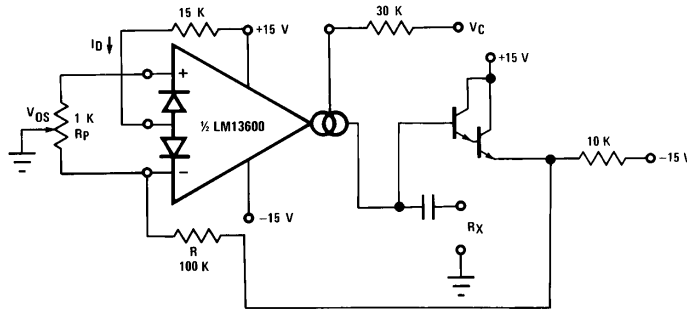
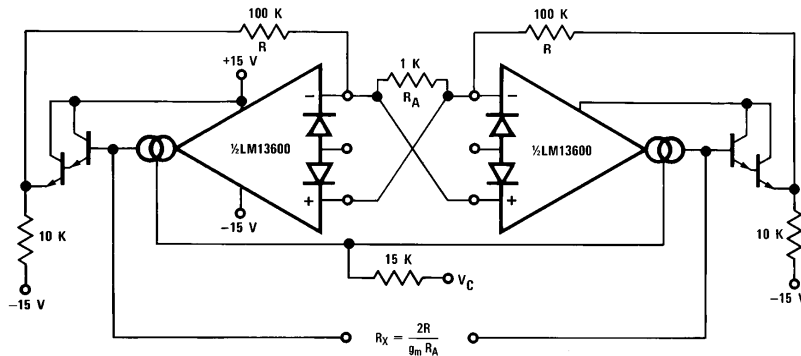

FIGURE 9. Voltage Controlled Resistor with Linearizing Diodes
FIGURE 10. Floating Voltage Controlled Resistor
*Figure 9* shows a similar VCR where the linearizing diodes are added, essentially improving the noise performance of the resistor. A floating VCR is shown in *Figure 10*, where each "end" of the "resistor" may be at any voltage within the output voltage range of the LM13600.